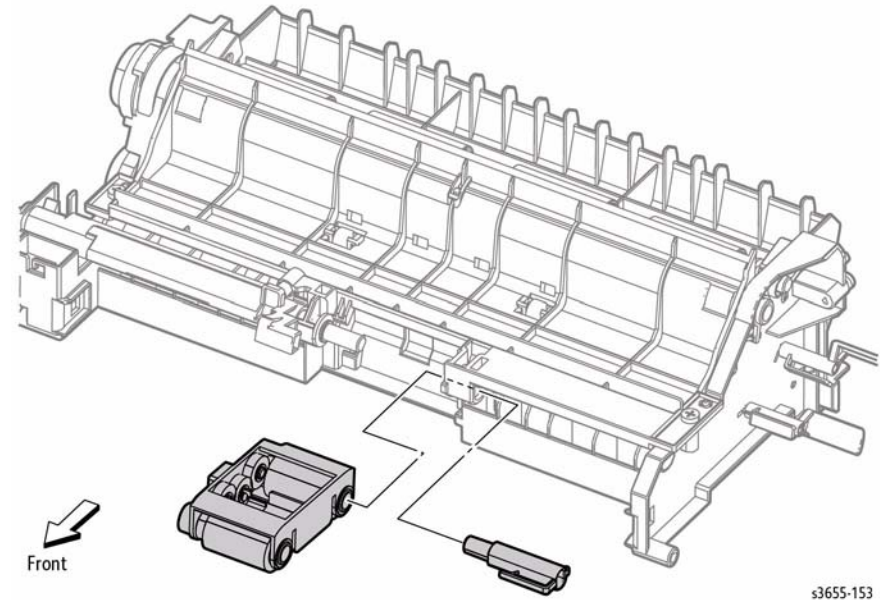

Figure 1 Remove the MSI Pick-up Assembly
2. Refer to Figure 1 to locate and remove the MSI Pick-up Assembly.